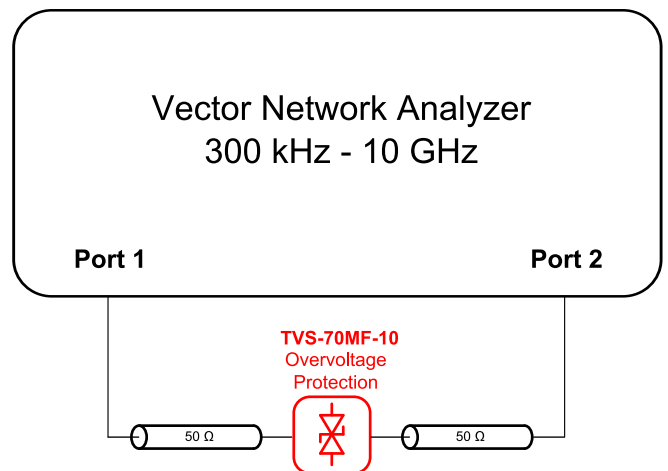

Figure 8: S-Parameter test setup.
- Connect the TVS-70MF-10 to a vector network analyzer as shown in Fig. 8.